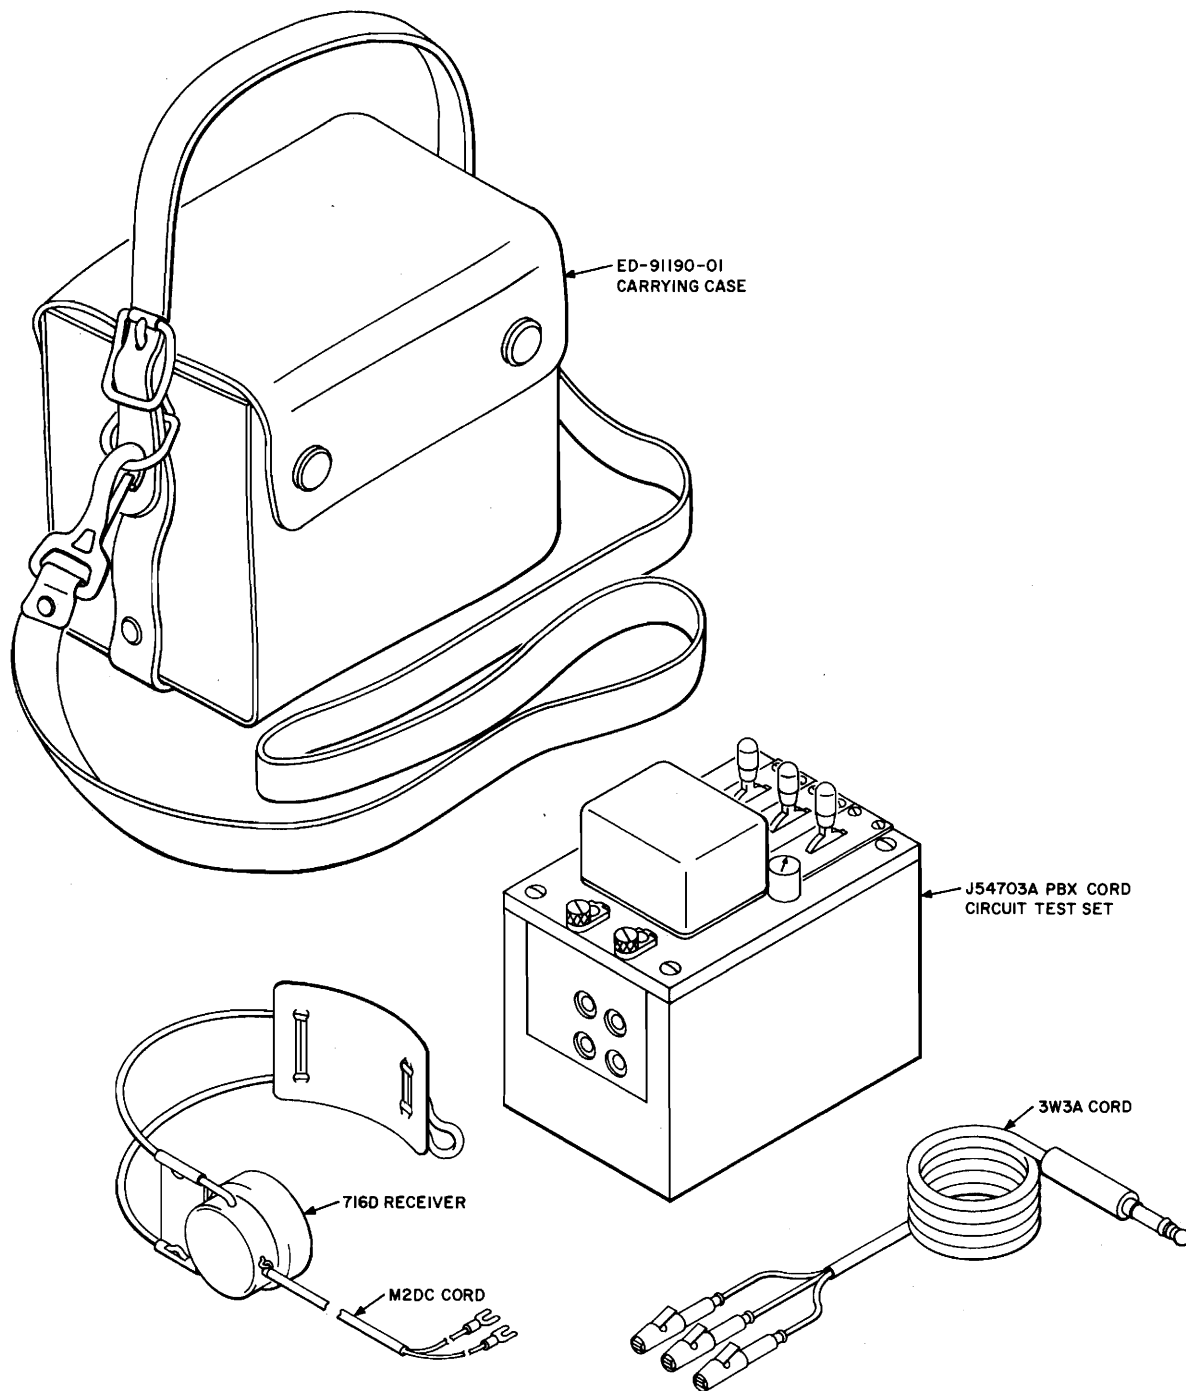

Fig. 1 — PBX Cord Circuit Test Set Equipment
1.01 This section describes the PBX cord circuit test set (Fig. 1) designed primarily to test the cord circuits of the various types of PBX switchboards in general use. This test set is also used for making tests of switchboard position circuits. One of the features of the test set is the provision for making ac continuity tests to determine the continuity and bridge balance of the various parts of the cord circuits. The test set uses the normal PBX battery supply.